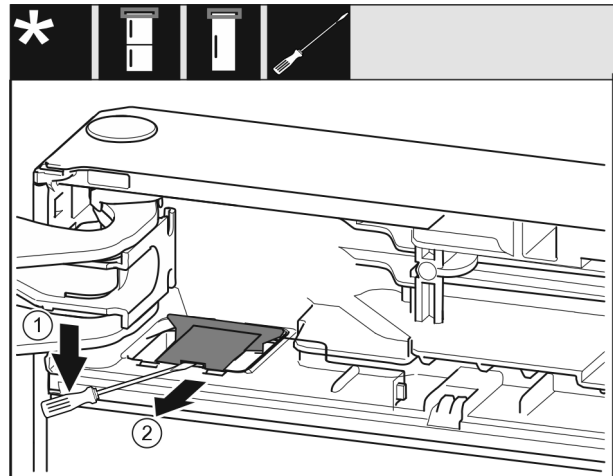

Fig. 6
- ▶ Unlatch the cover with a slotted screwdriver and lift it up. Fig. 6 (1)
- ▶ Take out the cover. Fig. 6 (2)